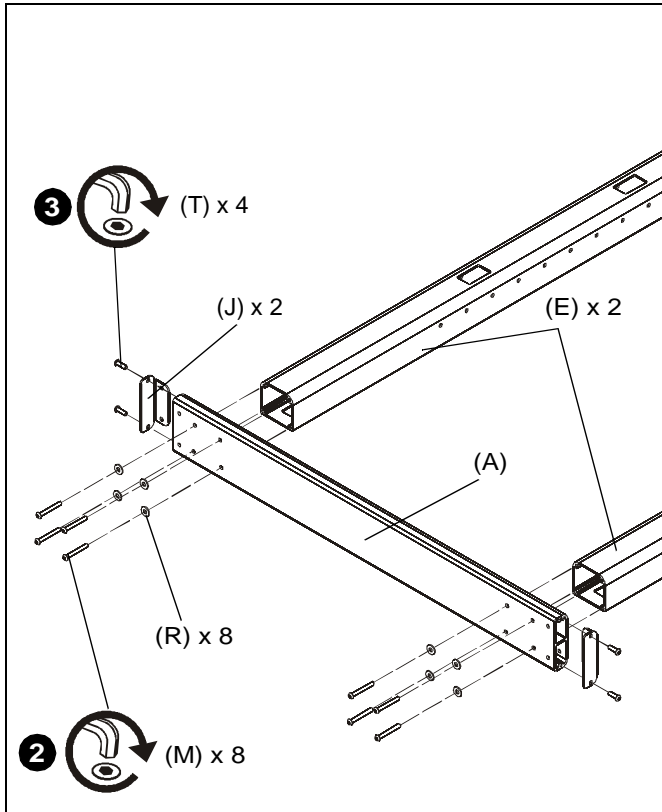

Figure 1
1. Lay two cart array columns (E) down on a flat surface.
2. Use eight 5/16-18 x 2 1/2" button head cap screws (M) and eight 5/16" washers (R) to connect cross bar (A) to columns (E). (See Figure 1)
3. Use four 5/16-18 x 1/2" button head cap screws (T) to attach two end brackets (J) to cross bar (A). (See Figure 1)